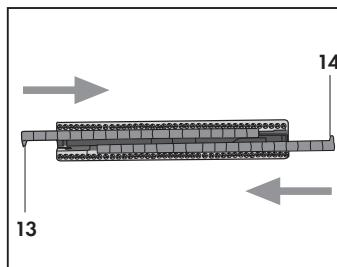
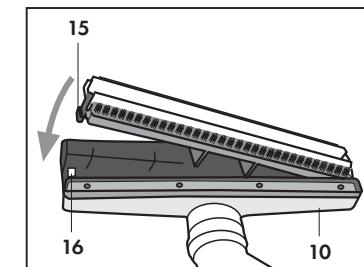

Fig. 16
Fig. 17
- Bristled frame with stiff inserts (12) for fitted and non-fitted carpets. (**Fig. 16**)
To assemble the bristled frame for fitted and non-fitted carpets (12), introduce the stiff brushes into the appropriate guides with the tabs (13 and 14) facing inwards (Fig. 16). To fit the bristled frame to the universal element of the brush (10), simply place the frame against the universal element and press one against the other until the little lever (15) on the brush is fully engaged in the slot (16) provided on the universal element (10). (Fig. 17)